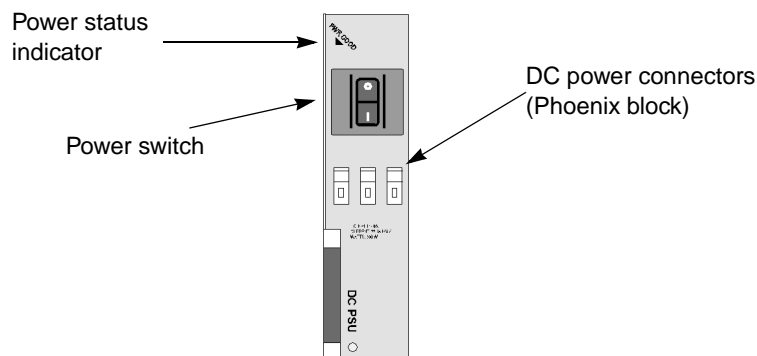

Figure 4-15. SA 1200 DC Power Supply
1. Make sure the unit's power switches are toggled off (see Figure 4-15 for switch location).
1. Toggle the power supply's power switch off. See Figure 4-15 for switch location.
3. Loosen each screw in the Phoenix Block connector. See Figure 4-15.